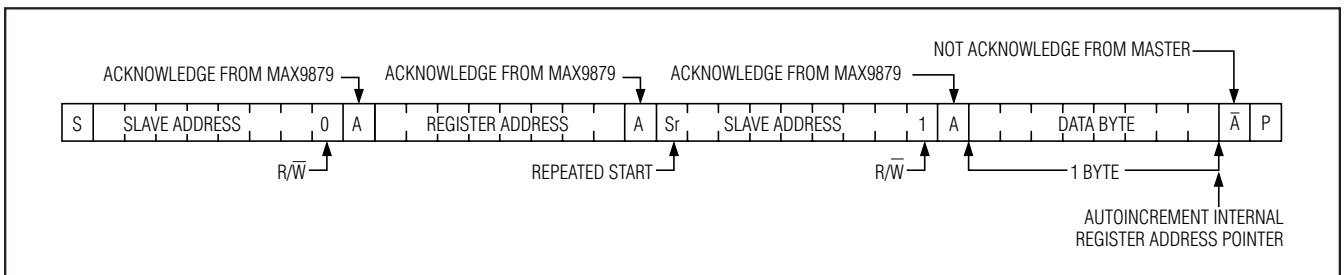
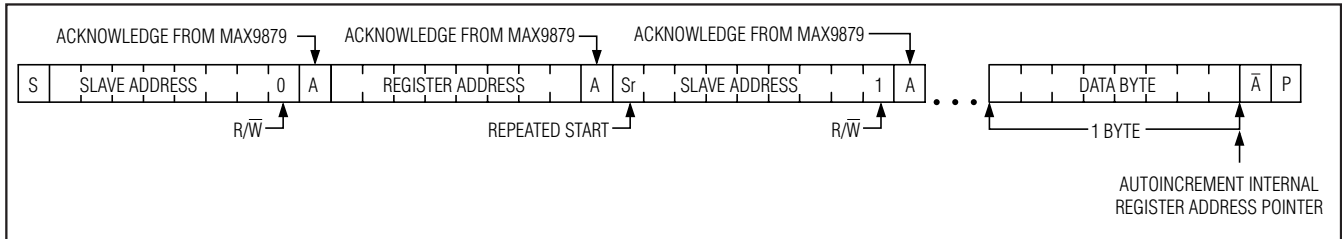

Figure 11. Reading One Indexed Byte of Data from the MAX9879
Figure 12. Reading *n* Bytes of Indexed Data from the MAX9879
The address pointer can be preset to a specific register before a read command is issued. The master presets the address pointer by first sending the MAX9879's slave address with the R/\bar{W} bit set to 0 followed by the register address. A REPEATED START (Sr) condition is then sent followed by the slave address with the R/\bar{W} bit set to 1. The MAX9879 then transmits the contents of the specified register. The address pointer autoincrements after transmitting the first byte. The master acknowledges receipt of each read byte during the acknowledge clock pulse. The master must acknowledge all correctly received bytes except the last byte. The final byte must be followed by a not acknowledge from the master and then a STOP (P) condition. Figure 11 illustrates the frame format for reading one byte from the MAX9879. Figure 12 illustrates the frame format for reading multiple bytes from the MAX9879.